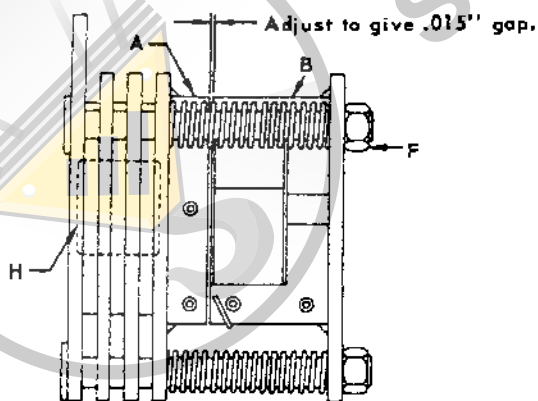

FIGURE 5-2. MOTOR BRAKE ADJUSTMENT
- c. Referring to Figure 5-2, check the gap between armature (A) and frame (B). The correct gap is .015".
- d. Adjust the gap by turning the three lock nuts (F) and check with a feeler gauge to be sure the gap is the same on both ends of the solenoid.